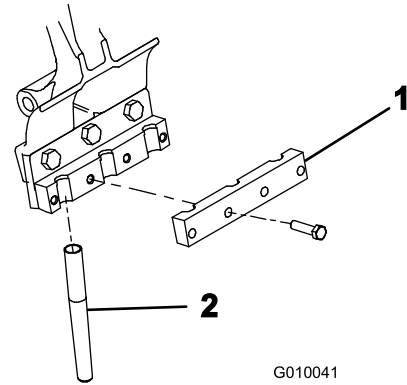

Figure 26
5. Loosely install a tine clamp to each tine holder (Figure 26) with 4 bolts (3/8 x 1-1/2 inches). Do not tighten the bolts.